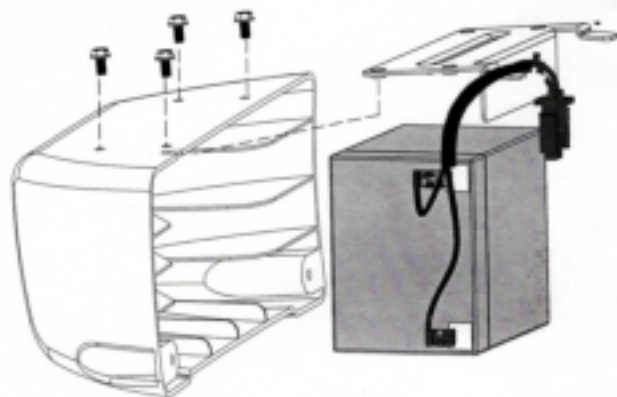

FIG. 2.
6. Remove 4 screws from battery hold down bracket. Fig. 2.